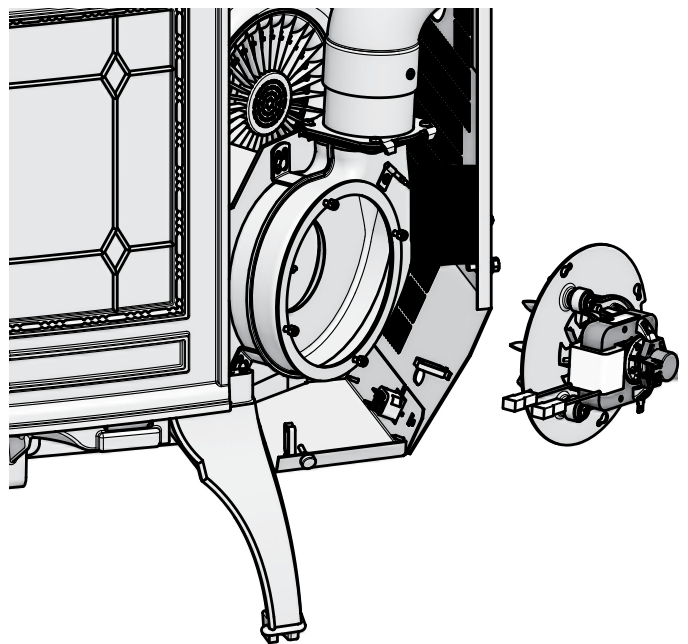

Figure 20.2
2. Remove the right side panel by loosening the 2 screws using a Phillips head screw driver or wrench (**Figure 20.2**).